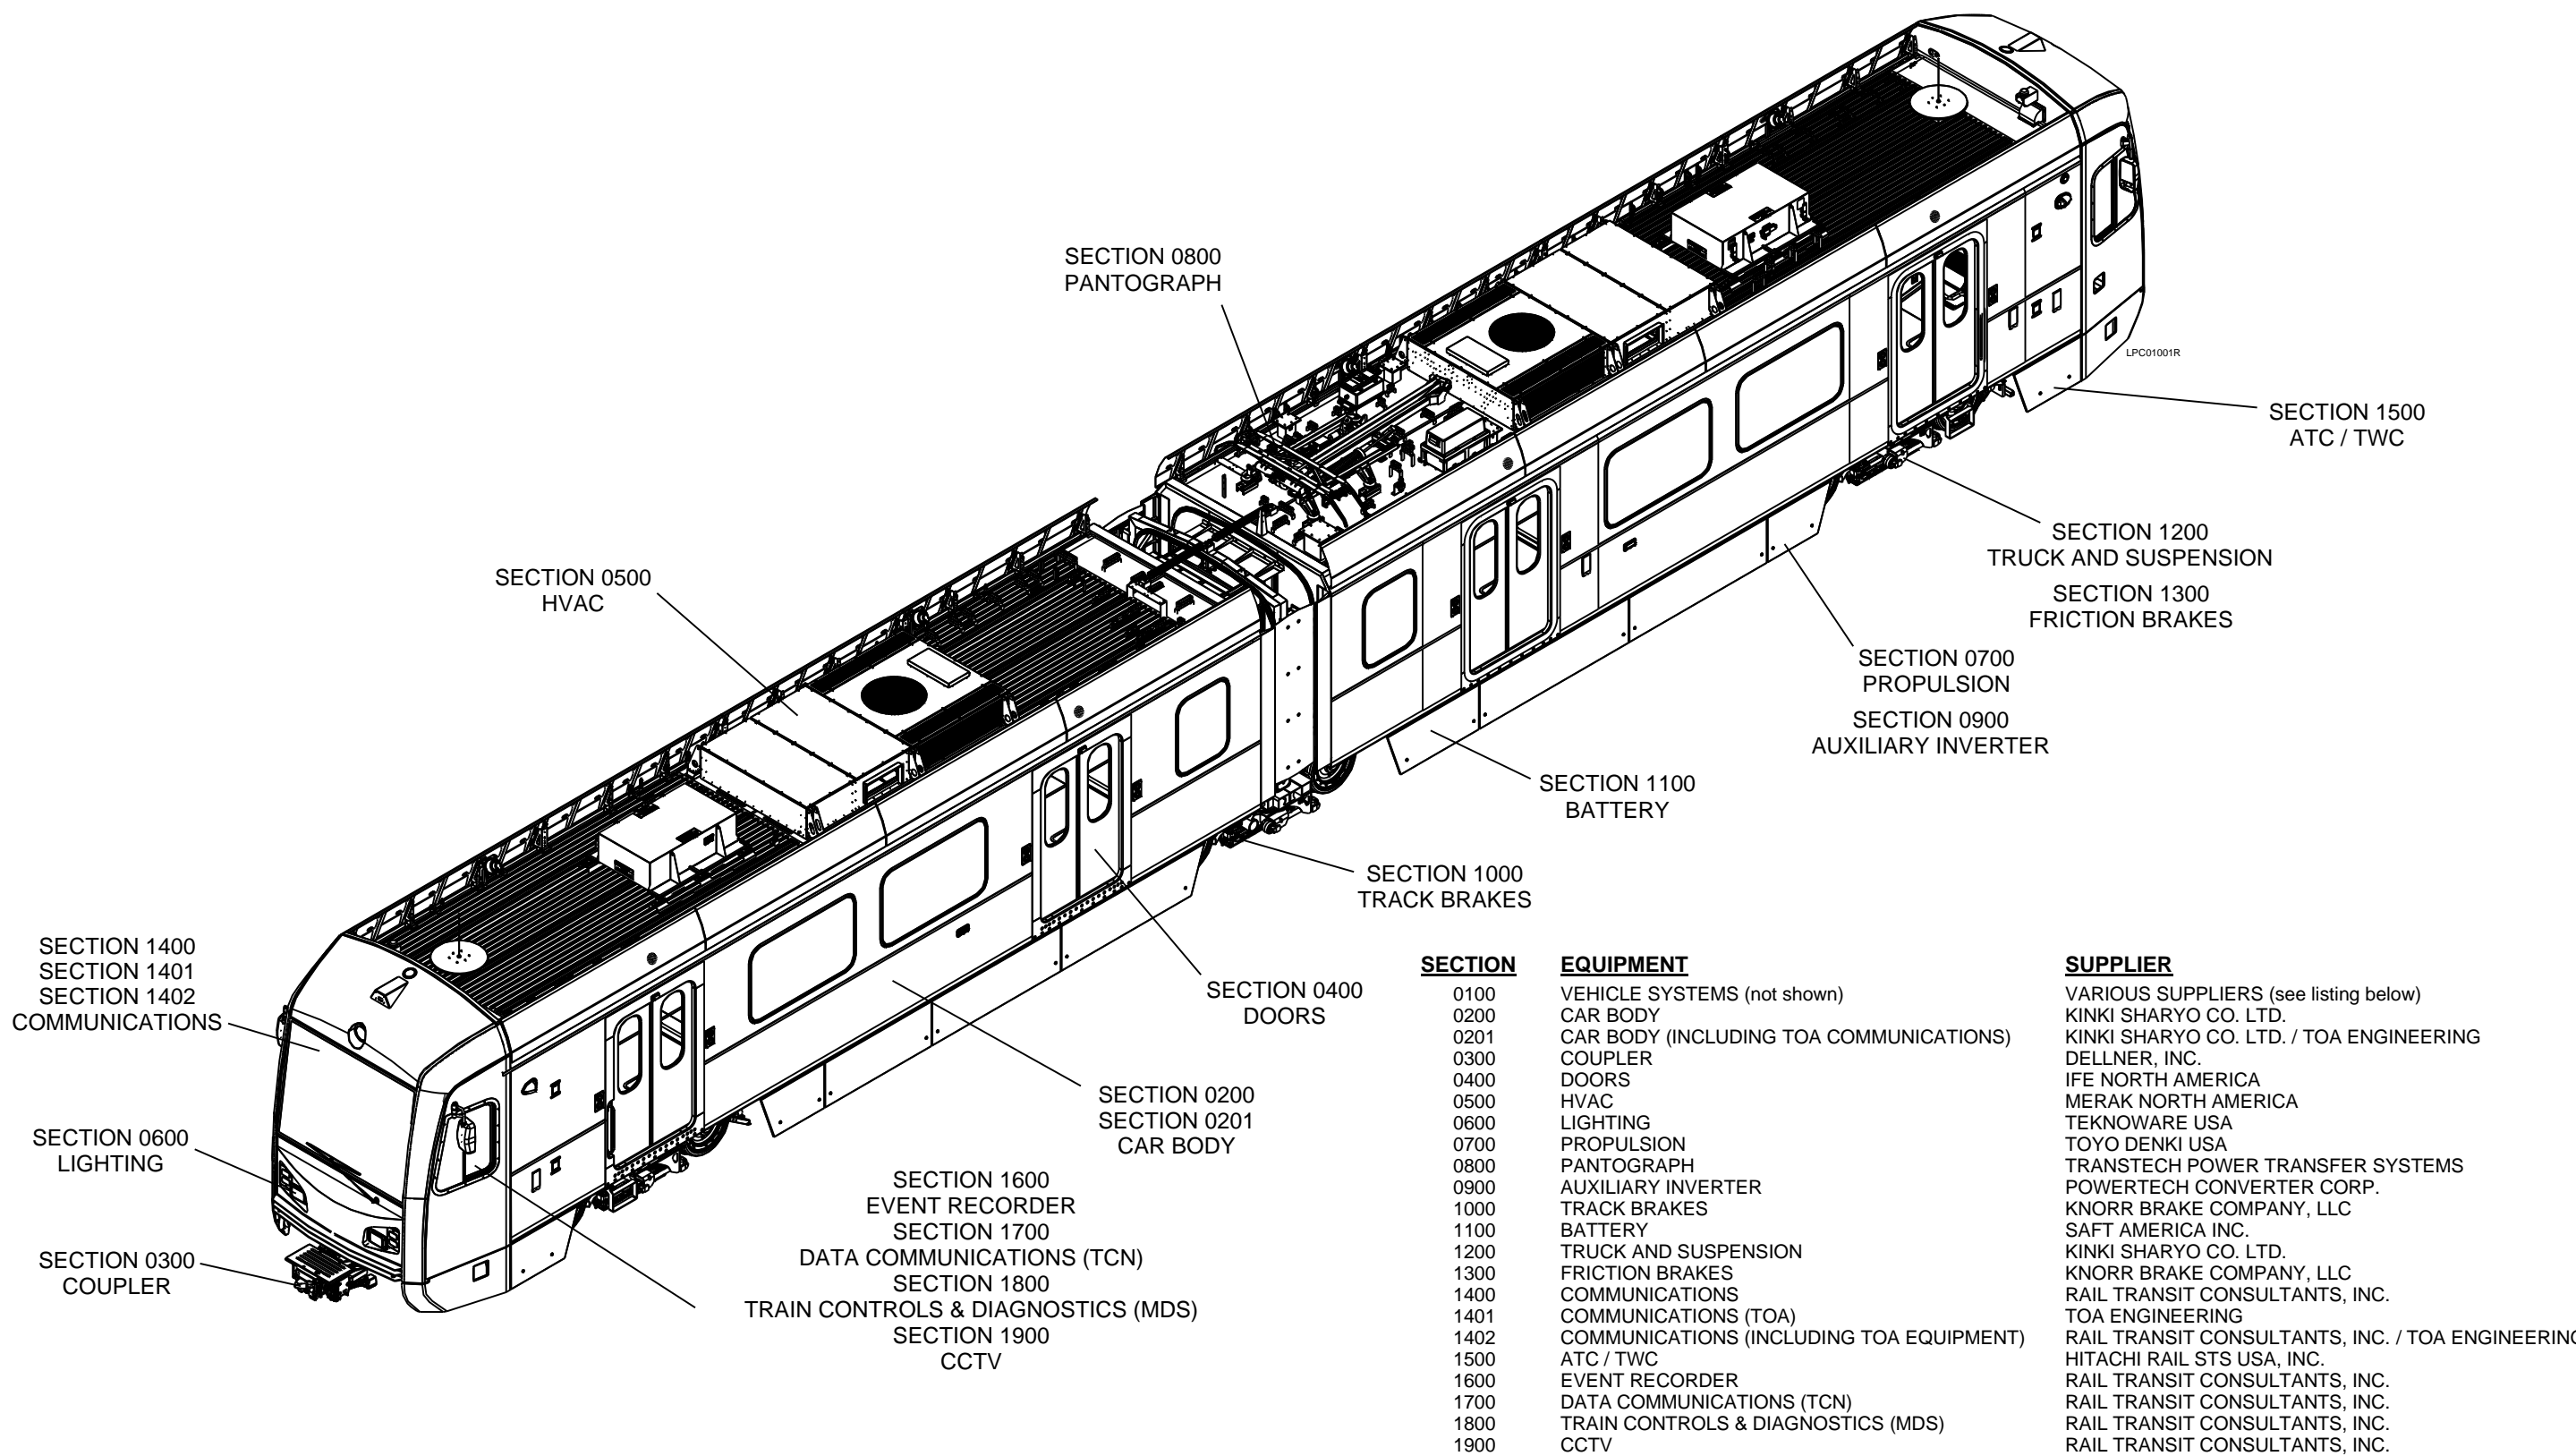

Figure 2-1: LACMTA P3010 LRV Equipment Locations
The LA P3010 Light Rail Vehicles (LRVs) consist of several major car systems and subsystems. See Figures 2-1 through 2-3. These systems are designed to interface and generate the most efficient and safe train operation available while in service. The LA P3010 LRV Running Maintenance and Servicing Manual, to the greatest extent possible, is divided according to these systems and subsystems. The major systems include, but are not limited to the following:
- Various Suppliers (See Figure 2-1)